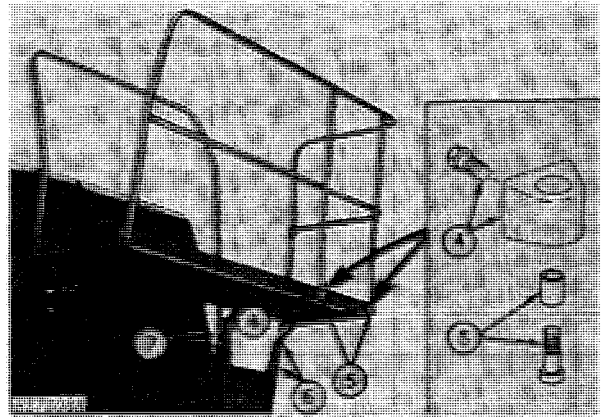

Fig. 3-Installing Handrail Assembly
4. Secure pivots to catwalk with one 3/8 x 3/4-inch self-locking screw in each pivot (Fig. 3).
5. Place catwalk handrail assembly on catwalk. Insert spacers in pivots and secure with 3/8 x 2-inch socket head cap screws (Fig. 3).
6. Secure handrail assembly with two 3/8 x 2-1/4-inch cap screws and self-locking nuts (Fig. 3).
7. Secure handrail assembly with two 3/8 x 2-1/4-inch cap screws and lock nuts (Fig. 3).